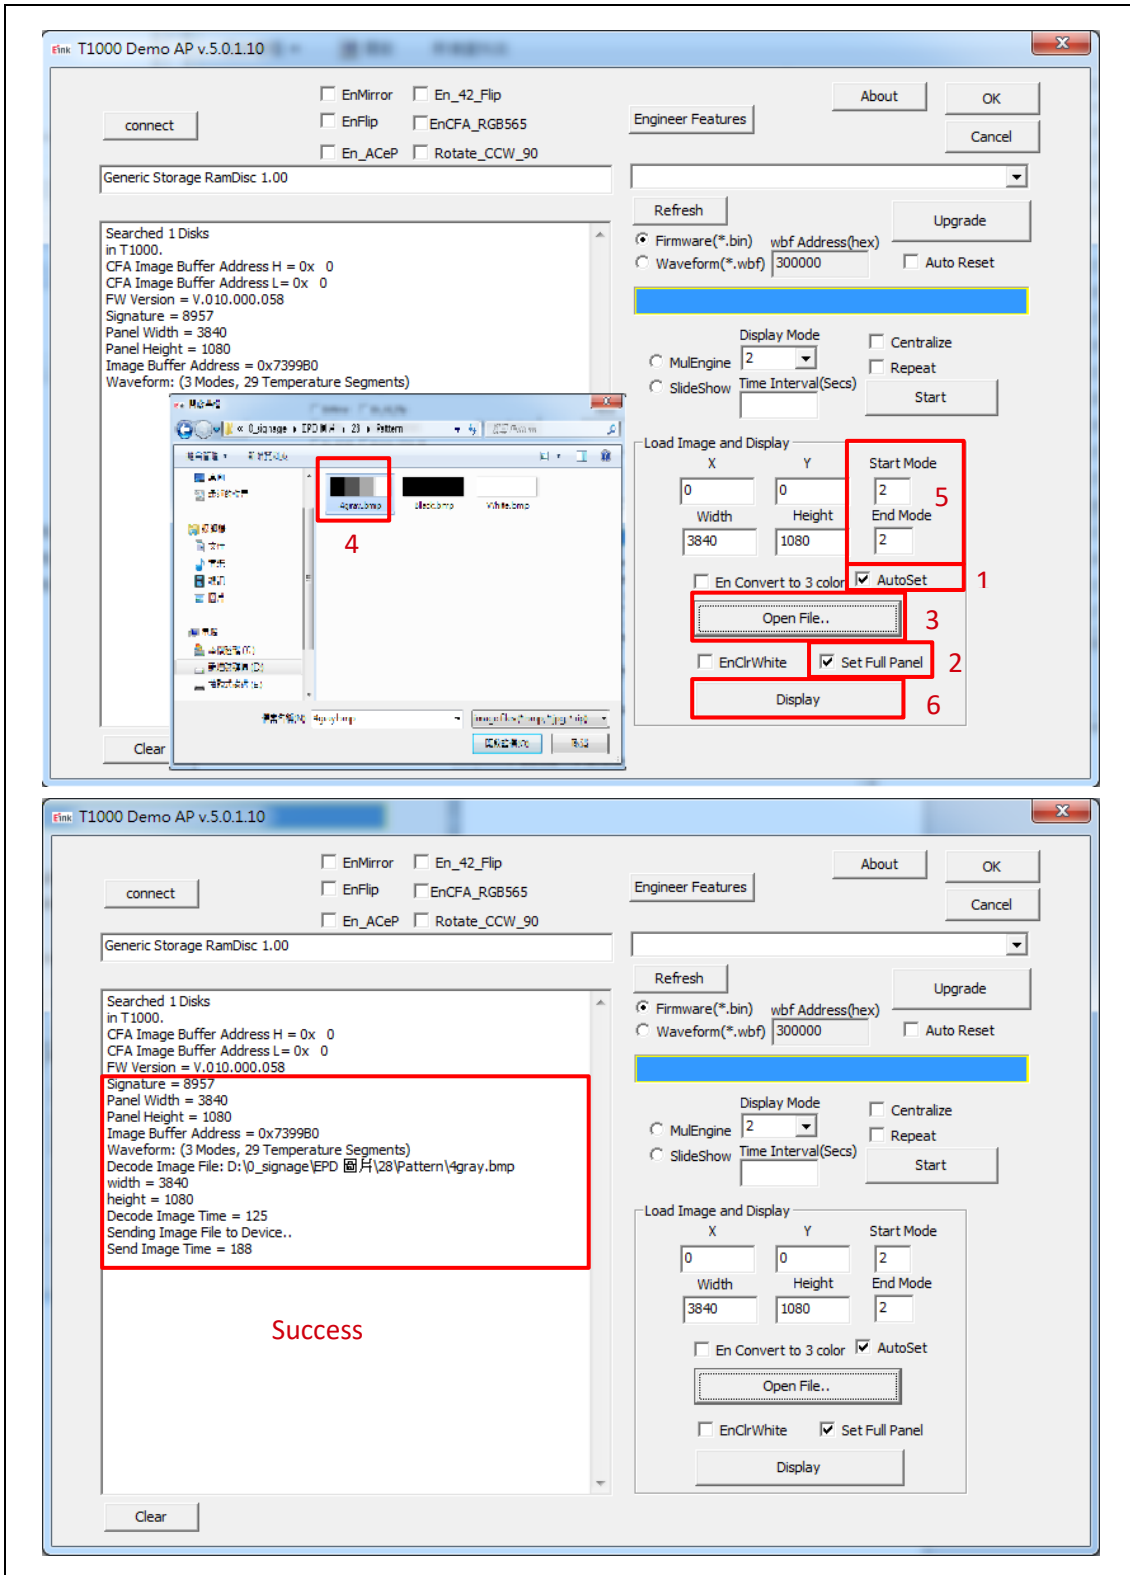

Figure 3.2 Update picture to 28" ePaper display
- A. Execute T1000 Demo AP (refer to Figure 3.2)